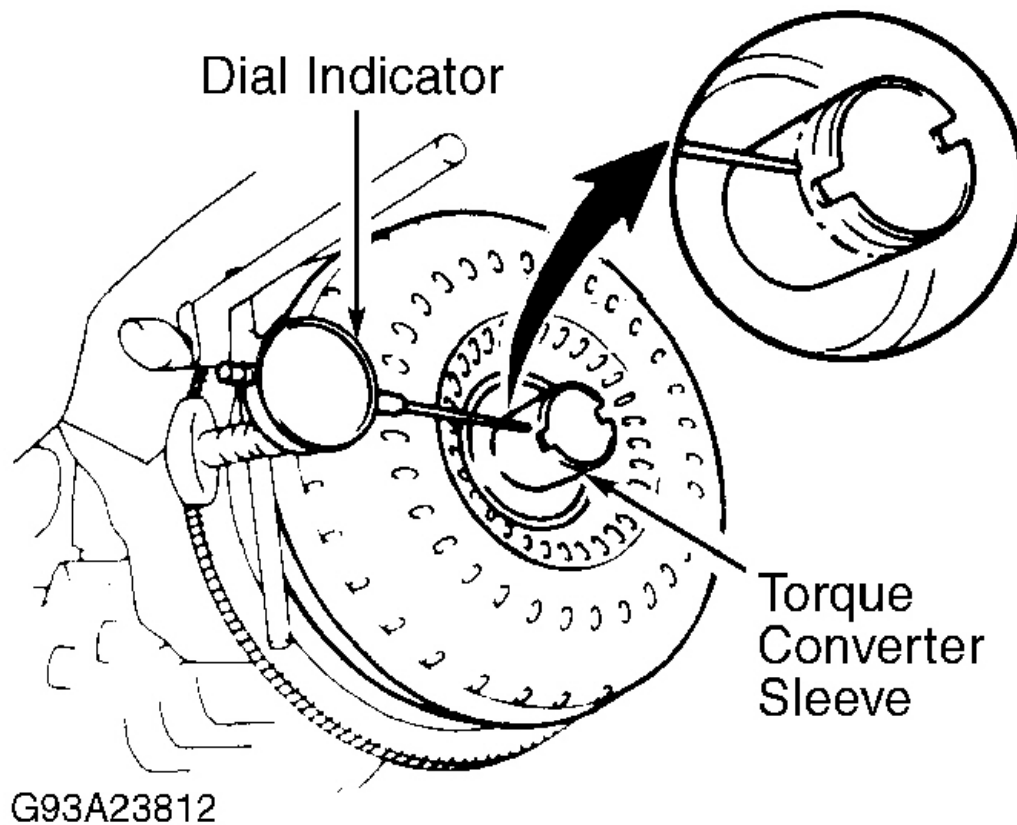

Fig. 5: Checking Converter Sleeve Runout
1. Temporarily mount torque converter to drive plate. Mount a dial indicator with needle resting on converter sleeve. See **Fig. 5** . Rotate converter. If runout exceeds .012" (.30 mm), ensure converter is properly mounted to drive plate.